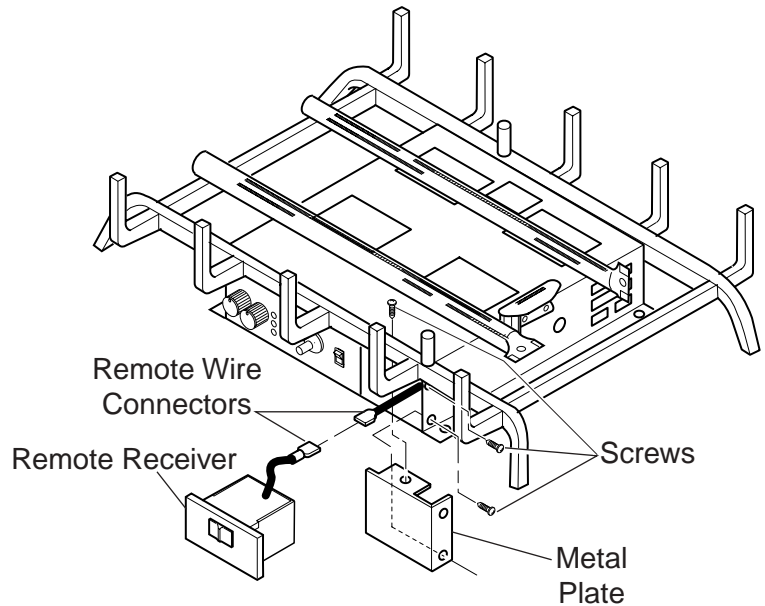

Figure 16 - Installing Remote Receiver
1. Unscrew 2 (two) screws located on the side of the frame. Unscrew 1 (one) screw located on top of the frame. Remove metal plate (*Figure 16*).
6. Connect the connectors to the two .25" male connectors located on the right side when facing the unit (*Figure 16*). Do not let the wire touch the grate or burners.